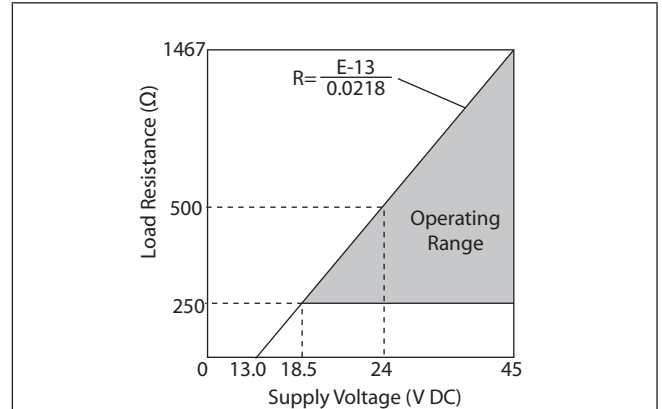

Figure 3. Power supply voltage / load resistance
18.5 to 45 V DC. A load resistance of 250 Ω or more is necessary in a loop. See Figure 3.